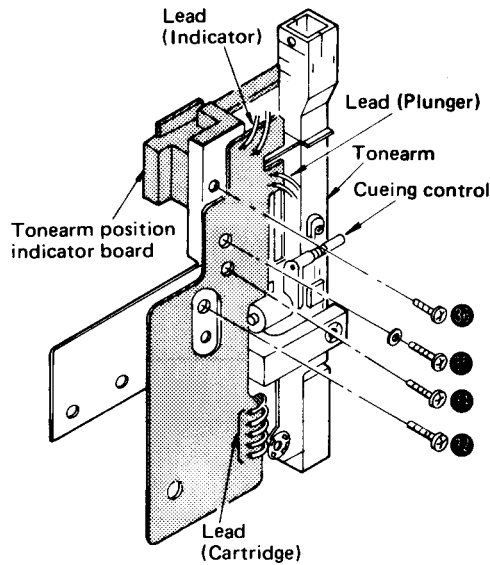

Fig. 10
3. Unsolder 5 leads of the cartridge. (Fig. 10)
4. Remove the setscrew of the tonearm board. (Fig. 10 : 32)
4. Remove the 2 setscrews of the cueing control ass'y. (Fig. 10 : 34, 35)
3. Unsolder 2 leads of the indicator. (Fig. 10)
4. Remove the setscrew of the tonearm position indicator board. (Fig. 10 : 36)